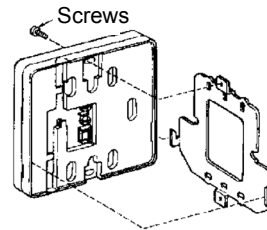

Fig. 4
3. Fasten the controller to the wall as shown in Fig. 4.